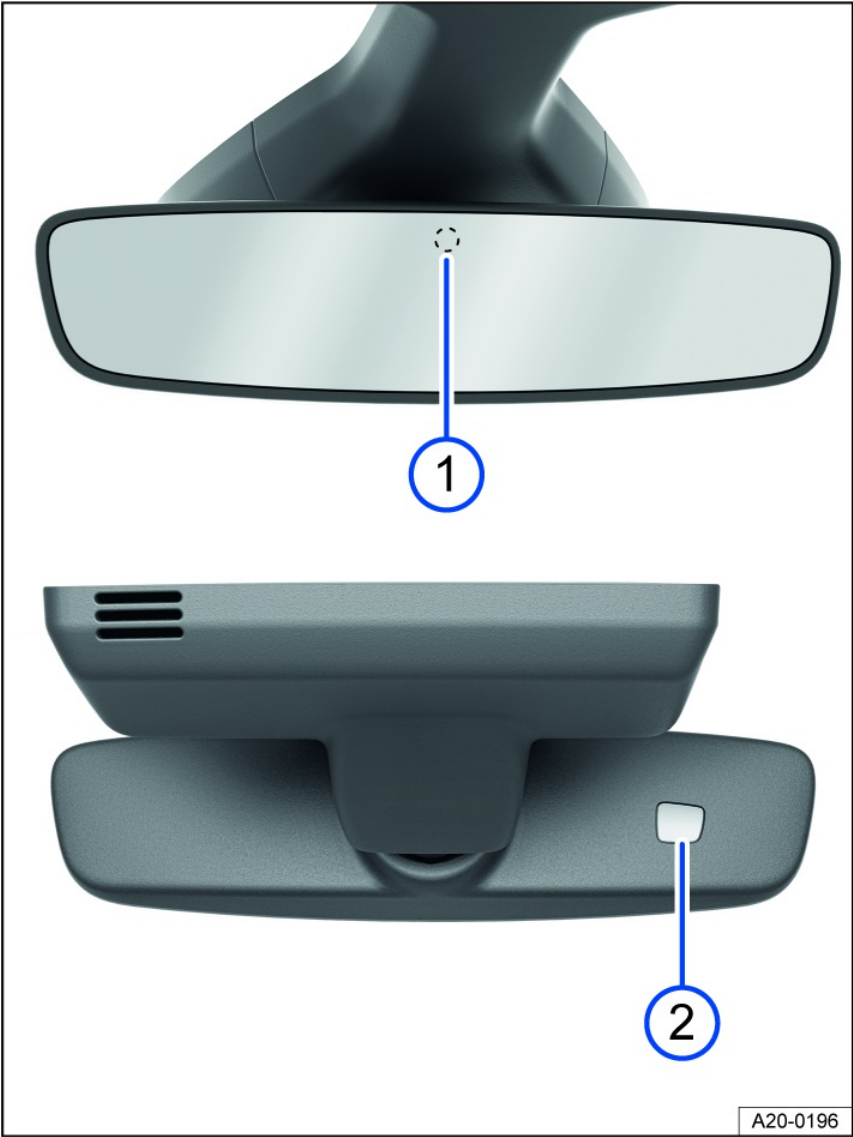

Fig. 96 On the windshield: automatic dimming interior rearview mirror.
When the ignition is on, the sensors measure the amount of light entering from the rear fig. 96 ① and from the front ②.